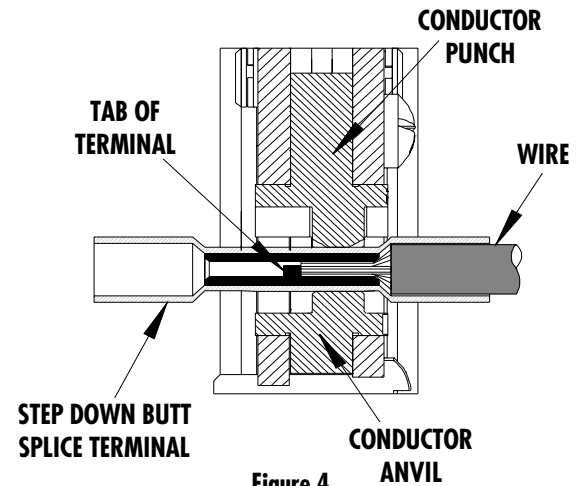

Figure 4
- Insert the properly stripped wire into the splice. The wires end should butt against the tab in the terminal (See Figure 4). Cycle the tool.